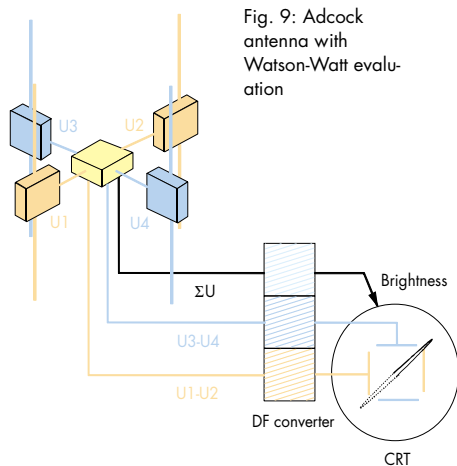

Fig. 9: Adcock antenna with Watson-Watt evaluation
**Adcock antennas** (Fig. 9) feature the following advantages over crossed-loop antennas: